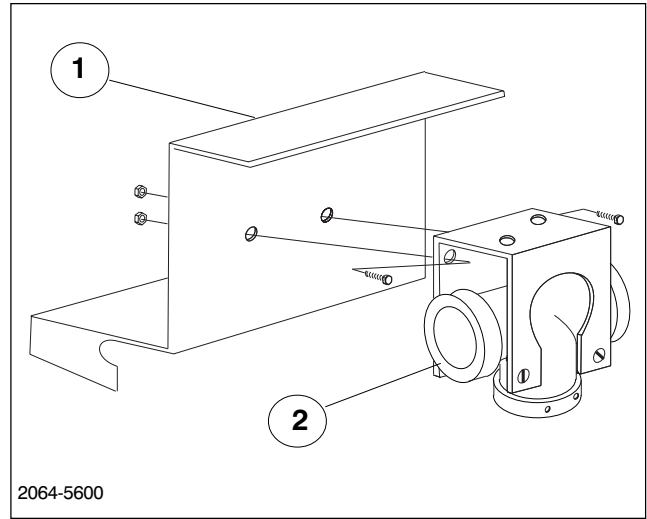

FIG. 7
7. Assemble Tee Bracket ASM to Boom Valve Bracket using two (2) 1/4-20 x 3/4 Flange Bolts and two (2) 1/4-20 Flange Nuts. (See FIG. 7)